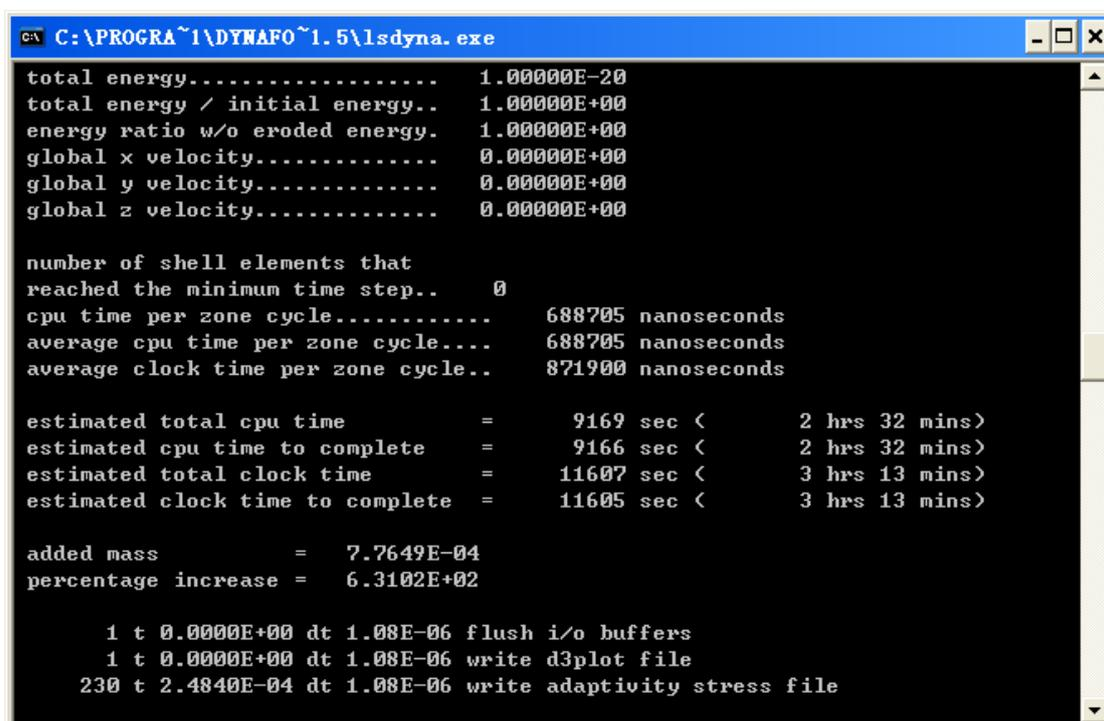

Figure 2.41 LS-DYNA solver window
4. Click **Submit** button from the SUBMIT JOB dialog box to display LS-DYNA Solver window illustrated in Figure 2.41.